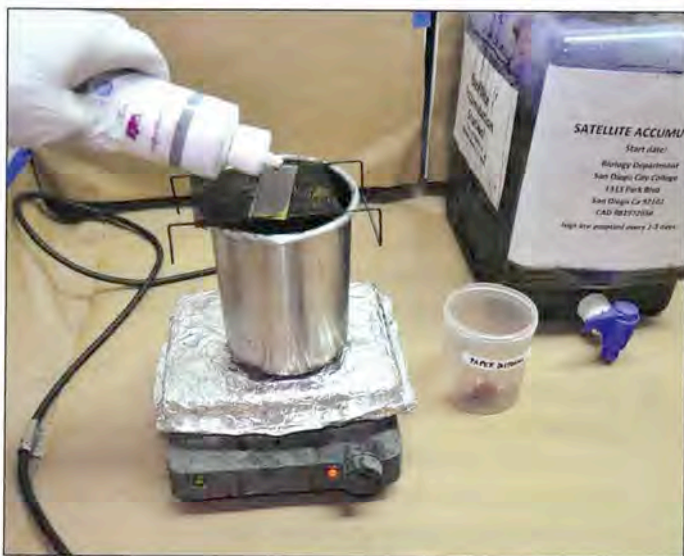

FIGURE 14.5 Steaming Slides During the Ziehl-Neelsen (ZN) Acid-Fast
Do this step in a well-ventilated area—preferably under a fume hood. Carbol-fuchsin is hazardous, so wear gloves and chemical eye protection and avoid inhaling the fumes. Place the slide smear-side-up over a steaming apparatus and then cover the smear(s) with a strip of bibulous paper or paper towel cut slightly smaller than the slide. Apply the ZN carbol-fuchsin stain so it soaks the paper. Heat the slide to steaming for 5 minutes (as shown in Fig. 14.5). During the 5 minutes of steaming, keep the paper moist with stain.
these typically difficult-to-stain cells (Fig. 14.5). The K method gets around the heating requirement by using a more concentrated carbolfuchsin solution.
- 2 Stain the Smears:** Follow the procedure illustrated in Figure 14.3 to stain your slides. Use a steaming apparatus (such as the one shown in Fig. 14.5) to heat the slide. **Caution!** Do not inhale the carbolfuchsin fumes; ideally perform this procedure in a fume hood or, at the very least, perform this in a well-ventilated space and keep your distance from the fumes.